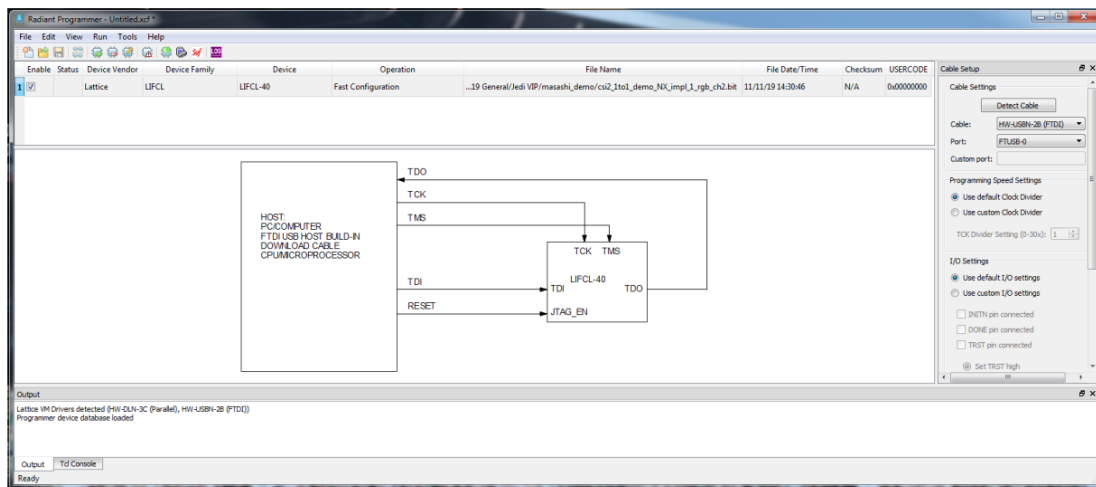

FIGURE 5. ENTERING FILE NAME
2. After the board is successfully scanned, the main interface opens as shown in Figure 5. Enter the file name.